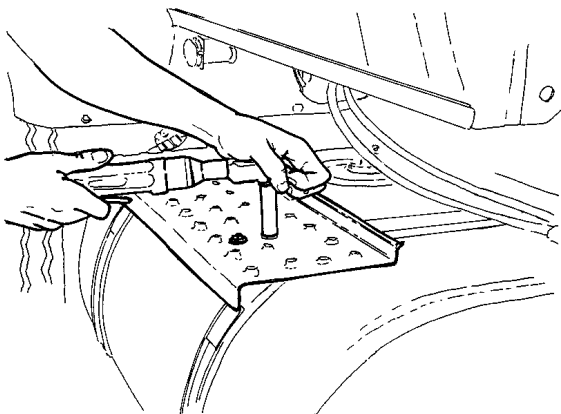

Figure 1 Remove Step
1. Remove the top entry step on the drivers side (Figure 1).